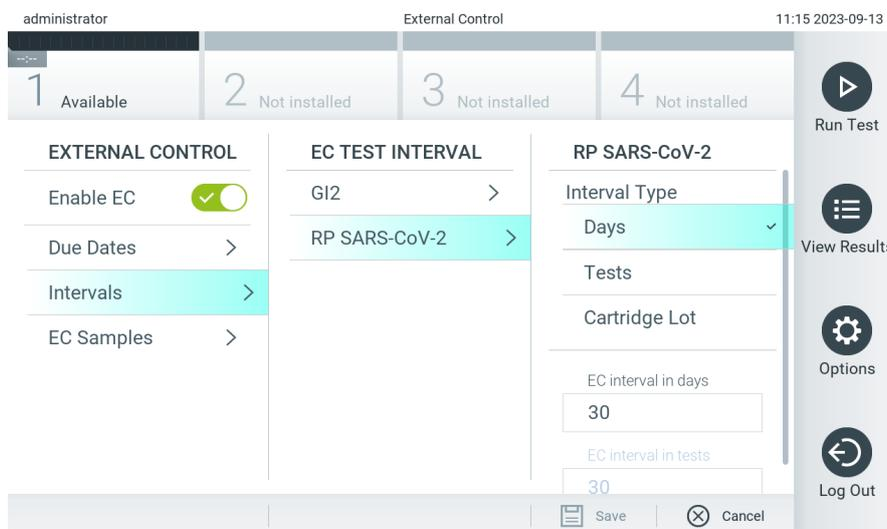

Figure 78. External Control Intervals screen.
- Select Intervals and then an assay from the list to configure the interval after. A reminder is shown to remind users that an External Control test needs to be performed for the selected assay if the interval has passed (Figure 78).